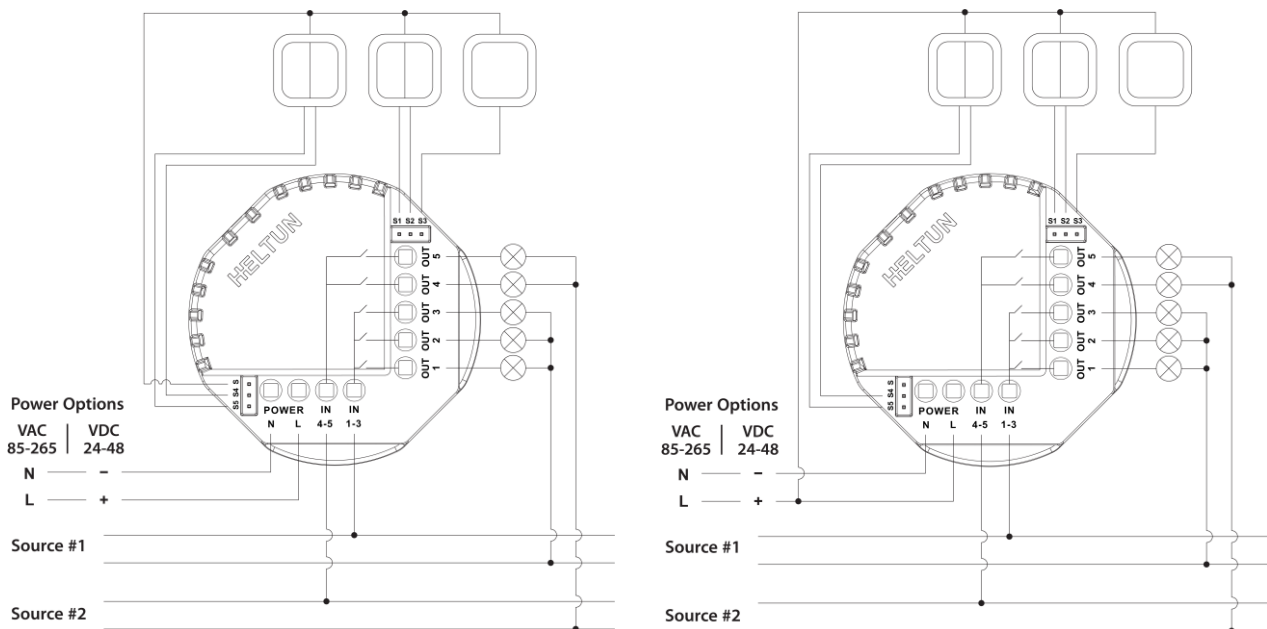

Figure 2: Power, Loads & External Switches Connection Diagram
2. Insert power wires into the HE-RS01 "POWER" terminals by inserting a small Phillips-head screwdriver in the slot beneath each terminal and unscrew to open. Follow *Fig. 2: Connection Diagram* and instructions below:
- Next, connect terminals S1, S2, S3, S4, S5 to external control keys (switches) following Fig. 2 left diagram or Fig. 2 right diagram.
- Note:** In case of using Figure 2 right diagram, it is MANDATORY to connect external switches to the same wire connected to terminal L on the device.